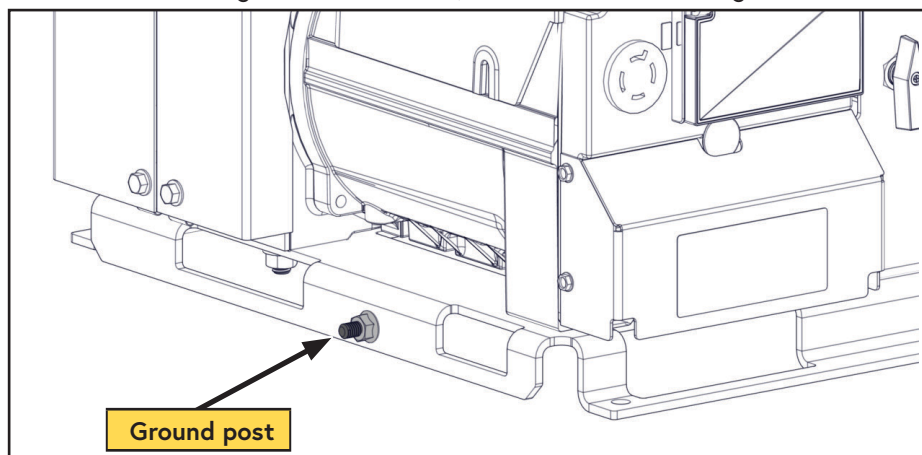

Figure 6 — Connect ground wire
- ☐ Connect a ground wire with a minimum size of 10 AWG to the ground terminal located on the engine side of the unit, next to the air outlet (Figure 6).